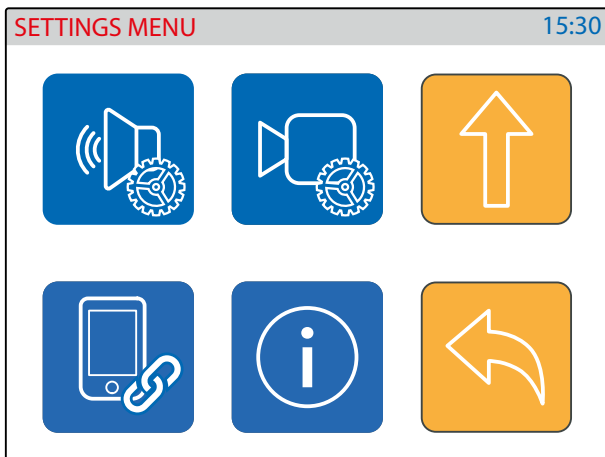

Fig. 6 Settings menu 2/2
- Tap on the speech adjustment icon (Fig. 6 on page 16).
- Tap on the video adjustment icon (Fig. 6 on page 16)
- Tap on the binding code icon (Fig. 6 on page 16).